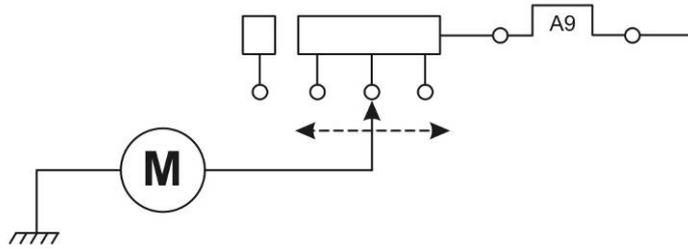

Figure 78 Ventilation Blower
**187. Ventilation Blower.** When the ignition is switched on, power is supplied via circuit breaker A9 to the blower motor (Figure 78). The blower control on the dashboard has an off position and three drive positions to enable the required air flow to be selected.